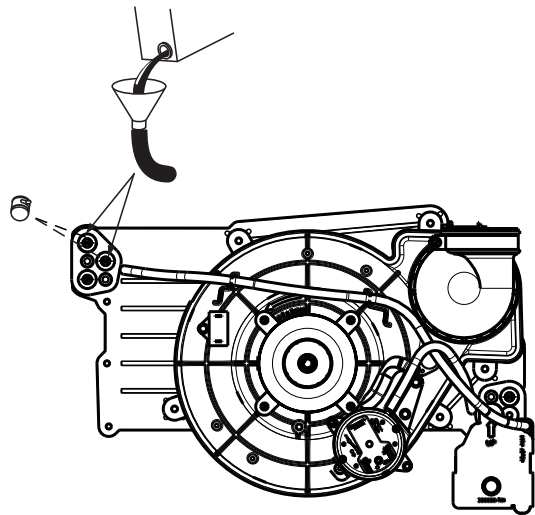

Fig. 30 - Winterizing Furnace
4. Remove one of the unused rubber plugs in the port on the collector box opposite the condensate trap. See Fig 30.